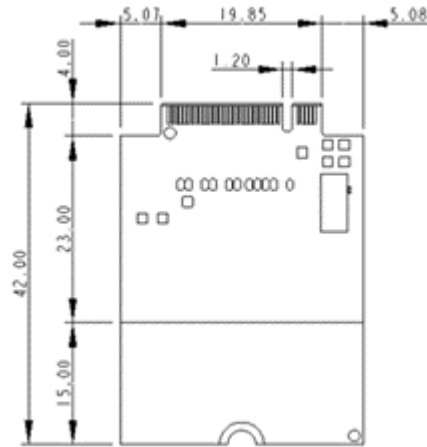

Figure 7-6: Copper Pad Location on Bottom Side of Module
Specific areas requiring heat dissipation are shown in Figure 7-6:
- Monitor temperature at all shield locations. Attach thermocouples to the areas indicated in Figure 7-6 (RF, Baseband).